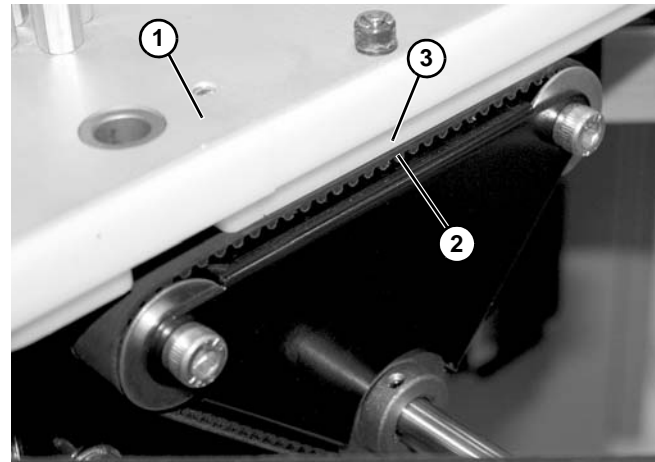

Figure 73
5. Place pallet (**Figure 73, item 1**) on corner assembly. Position corner assembly so that belt (**Figure 73, item 2**) and pallet skirt (**Figure 73, item 3**) line up as shown.